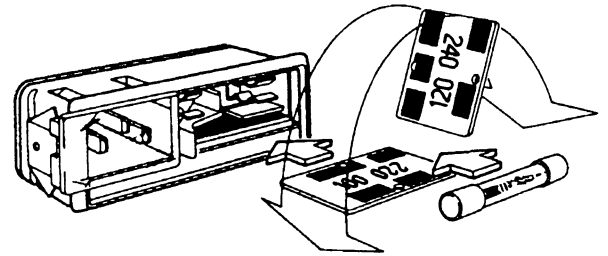

Figure 2-1. Voltage Selector and Fuse
1. Disconnect the power cord at the instrument. Open the fuse holder cover door. Rotate the fuse-pull to the left to remove the fuse; see figure 2-1.